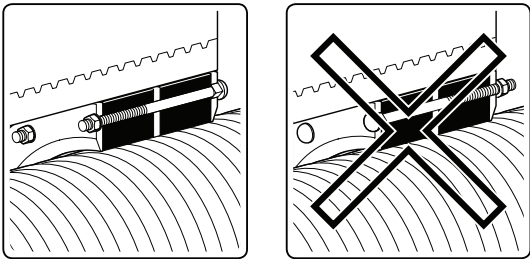

Figure 4-86: Correct vs. incorrect Wall Seal installations
- To ensure no damage to the Ecoflex jacket, tighten the nuts of the Uponor Wall Seal until the rubber seal wraps around the Ecoflex jacket pipe and the core hole, or if used, the Wall Sleeve. **Figure 4-86** illustrates the correct way versus the incorrect way of installing the Wall Seal.